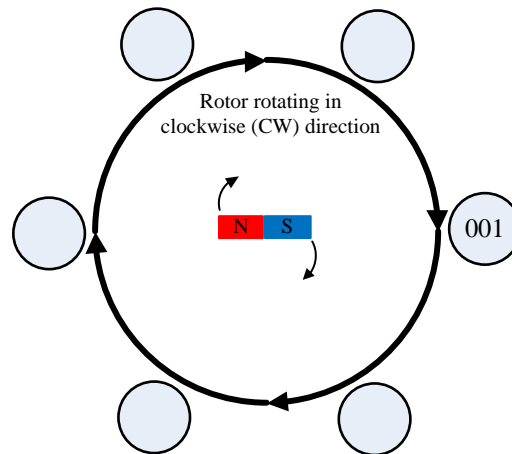

Figure 5. States of Hall sensor signals (H1 H2 H3) for CW direction.
4. Capture the waveforms of Hall sensor signals and complete the diagram in Figure 5.